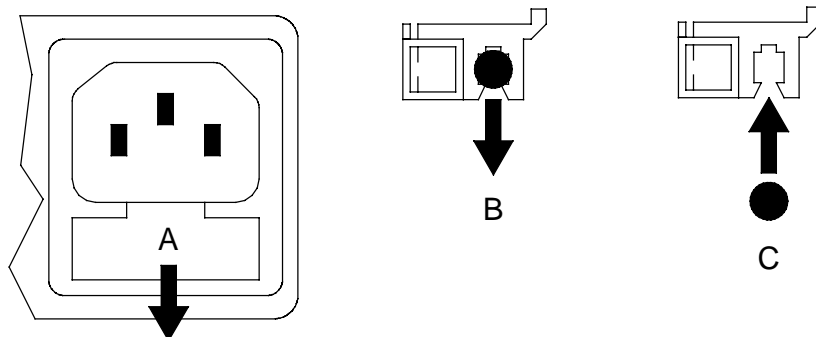

Figure 6 – Changing the Mains Fuse
Referring to Figure 6, remove the power cable, use a small flat bladed screwdriver to pry up the tab on the fuse carrier (A) and pull it out. Push the blown fuse out of the clip in the carrier (B) and dispose of it. Fit a new fuse in the clip (C) and push the carrier back into the unit so that it clicks home. Spare fuses are provided with the unit.